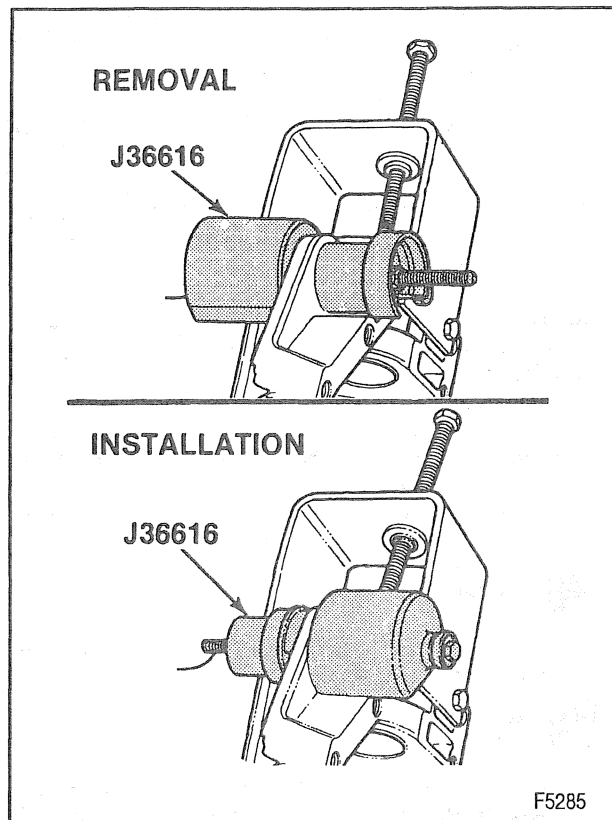

Figure 30—Removing/Installing Carrier Case Bushings
2. Carrier bushing using J 36616 (figure 30).
1. Carrier bushing using J 36616 (figure 30).